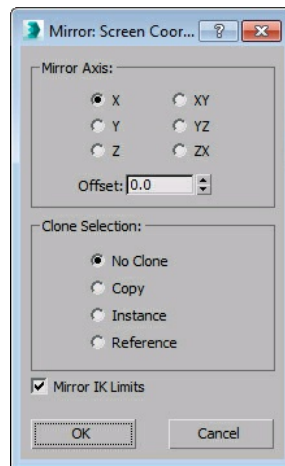

Figure 3-50 The Mirror: Screen Coordinates dialog box
2. Choose the **Mirror** tool from the **Main Toolbar**; the **Mirror: Screen Coordinates** dialog box is displayed, as shown in Figure 3-50.